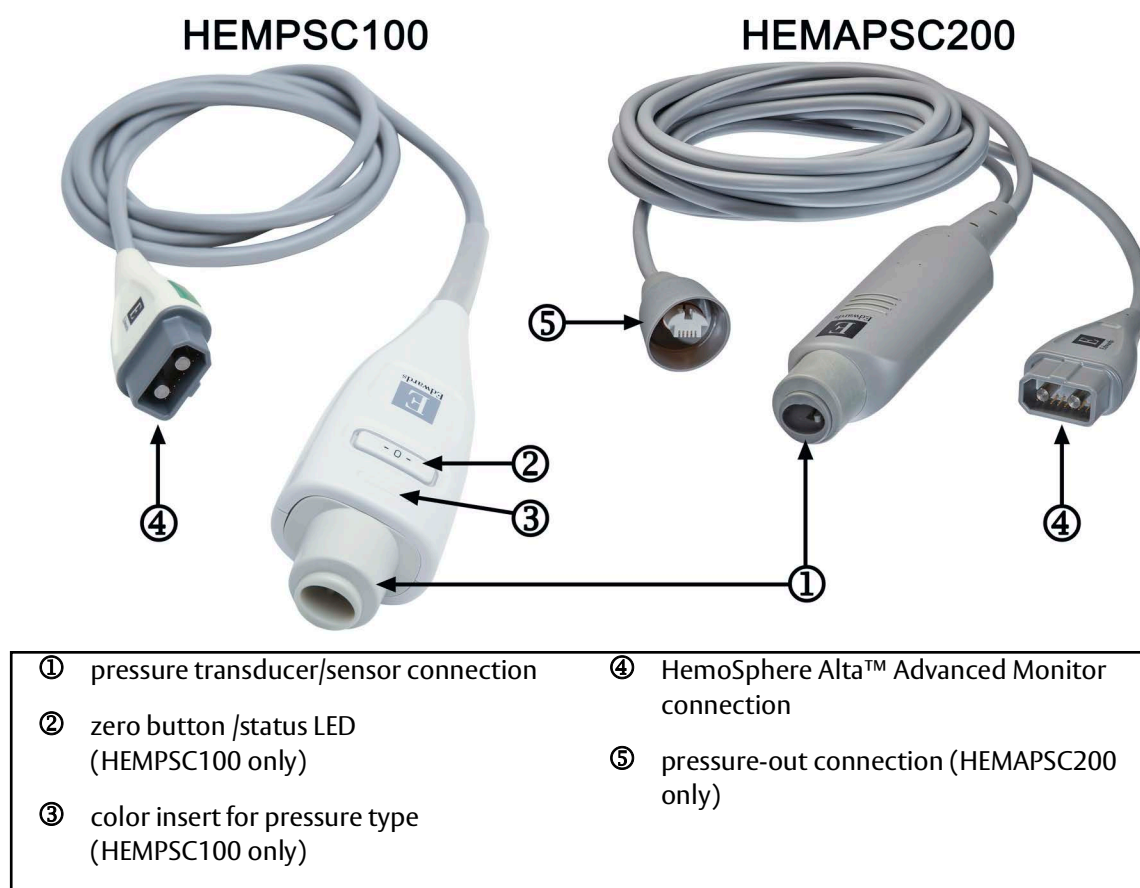

Figure 9-1 HemoSphere™ Pressure Cable
The pressure cable is a reusable device that connects with the HemoSphere Alta™ Advanced Monitor on one end ④ and any approved single disposable pressure transducer (DPT) or sensor on the other end ①. See Figure 9-1 on page 160. The pressure cable acquires and processes a single pressure signal from a compatible DPT, such as the TruWave™ Transducer, or an advanced arterial sensor, such as a FloTrac™ Sensor, FloTrac Jr™ Sensor or Acumen IQ™ Sensor. An advanced arterial sensor connects to an existing arterial catheter to provide minimally invasive hemodynamic parameters. A TruWave™ Transducer can connect to any compatible pressure monitoring catheter to provide location based intravascular pressure. Refer to the directions for use provided with each catheter for specific instructions on catheter placement and use, and for relevant warnings, cautions and notes. The connected technology type appears on the top of the parameter tile (see Figure 4-6 on page 89). The three technology types available are based on the paired sensor/transducer:
Parameters in the parameter configuration menu are categorized by technology. The appearance and connection points for the HemoSphere™ Pressure Cable are shown in figure 9-1.
Pressure Type Color Insert. If desired, the appropriate color insert can be used on the pressure cable to indicate the monitored pressure type (HemoSphere™ Pressure Cable only, HEMPSC100). See ③ in figure 9-1. The colors are as follows:
- 7 Use a straight in or out motion to connect the green connector of the primed advanced arterial sensor. The pressure cable LED that surrounds the zero button (see ② in figure 9-1) will flash green indicating that the pressure sensor is detected. A yellow light indicates a fault condition. If this occurs refer to the status bar for specific fault condition details.
Press the physical zero button  directly on the pressure cable (HEMPSC100 only) and hold for three seconds (see figure 9-1).